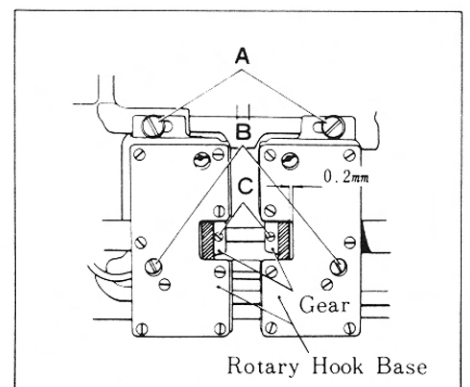

Figure 4
- Loosen the two securing screws (A) and (B) in each bobbin case support housing. (see Figure 4)
- Loosen the two locking screws (C) (see Figure 4) and slide the gears outward until they touch the casting. Then move each toward the center a distance of 0.2mm. This setting will center each gear on its mating horizontal gear.